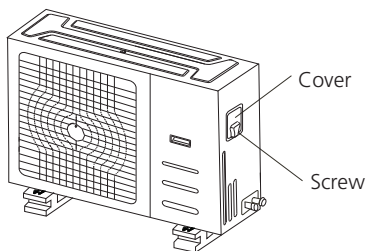

Fig. 8.1
2. Remove the electric cover of the outdoor unit. If there is no cover on the outdoor unit, take off the bolts from the maintenance board and remove the protection board. (See Fig. 8.1, 8.2)